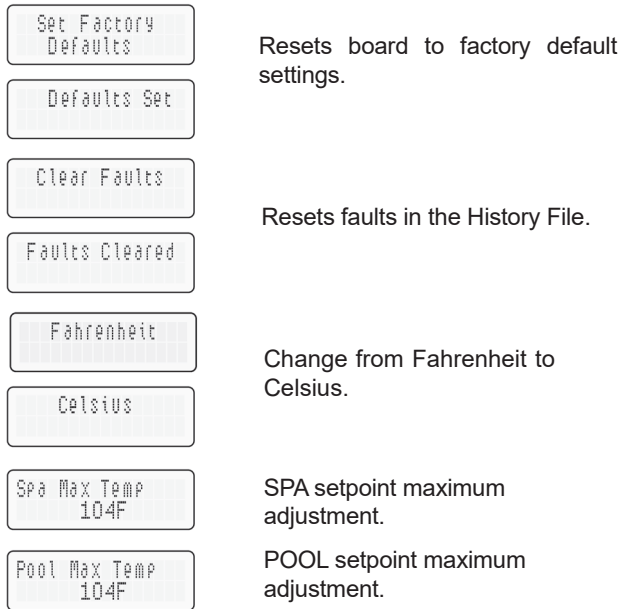

Figure 44. Programmable Events
2. Press the MODE button sequentially until the desired program event is reached. There are 5 different events that can be programmed. They appear in the sequence listed in **Figure 44** below.